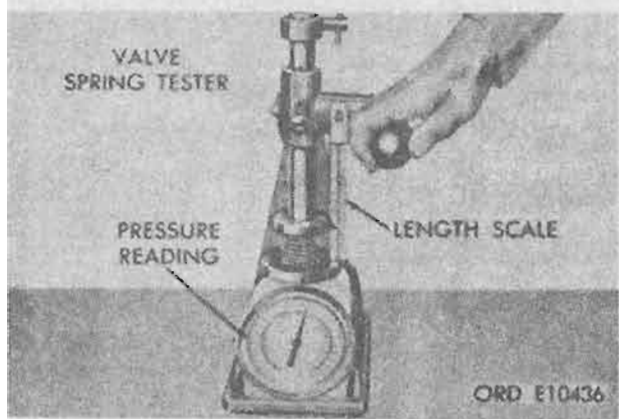

Figure 4-139. Valve spring pressure.
d. *Valve Spring Pressure.* Check valve spring for proper pressure (fig. 4-139). Weak valve springs cause poor performance. If pressure of any spring is less than specified in table 4-3, replace spring.